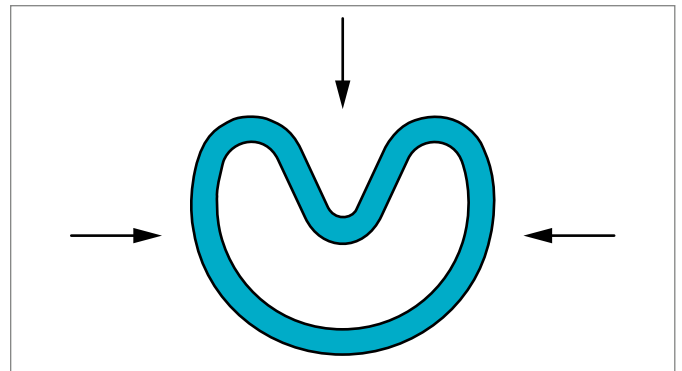
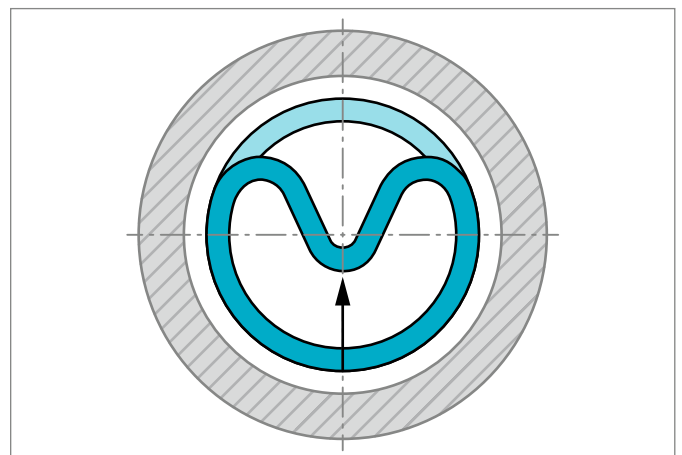
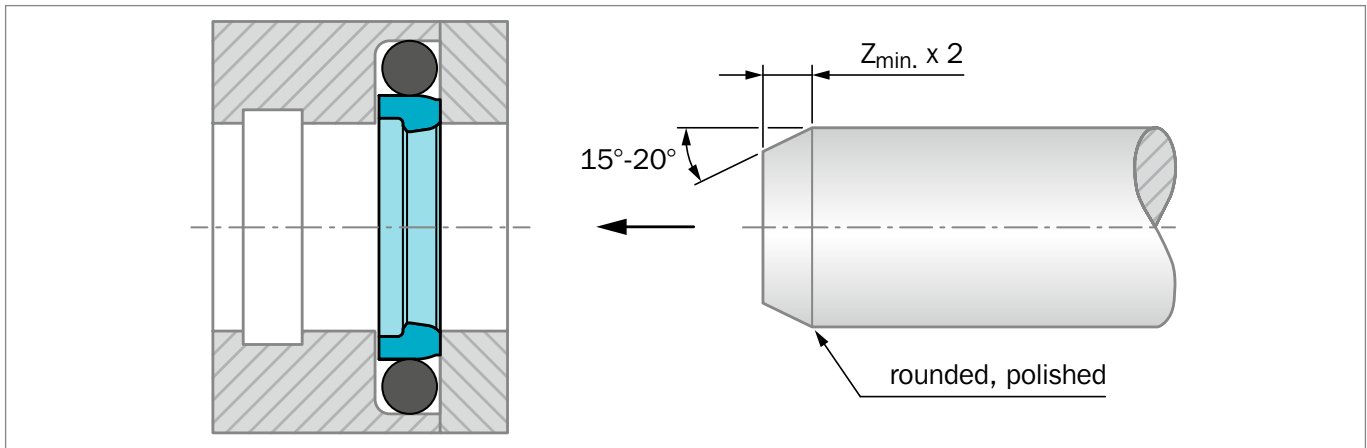

Figure 8: Kidney-shaped deformation of the seal ring
Figure 9: Inserting the seal ring into the closed groove
Figure 11: Calibration of the installed seal
- Ensure the piston rod has a lead-in chamfer; if not, use a calibration mandrel, see Figure 11.
- Compress the Turcon® or Zurcon® seals into a kidney shape while avoiding sharp bends see Figure 8.
- Place the seal ring in compressed form into the groove and push against the O-Ring in the direction of the arrow and form the seal into a ring see Figure 9.
The same installation procedure for rod Stepseal® 2K may be used for AQ-Seal® or AQ-Seal® 5 - see Figure 8 and Figure 9 - except AQ-Seal® 5 uses different groove sizes. However, the Quad-Ring® and Bean Seal should not be fitted until the AQ-Seal® or AQ-Seal® 5 have been calibrated - see Figure 11.